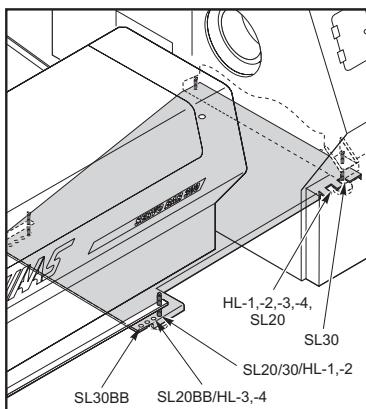

Figure 2.1 Barfeeder control plate to lathe
2. Position the appropriate slot (see Figure 2.1) of the control plate around the front left leveling screw of the lathe. Rotate the control plate around the front left screw until the appropriate rear control plate hole is aligned under the left rear leveling screw of the lathe.